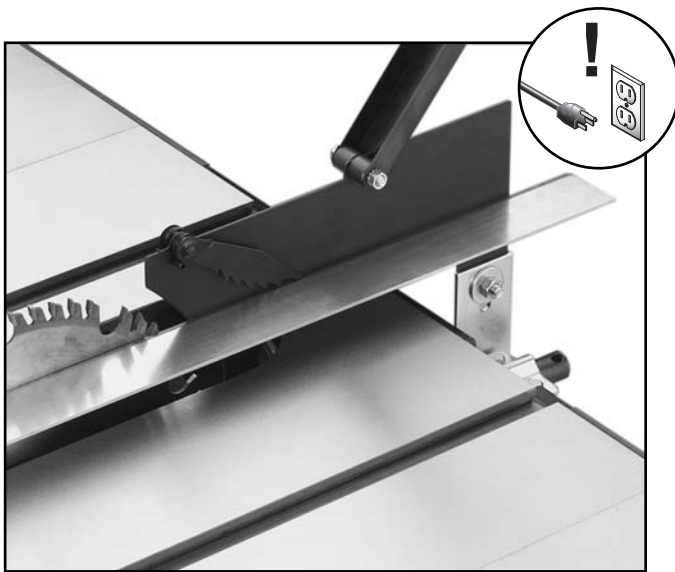

Figure 19. Guard in line with blade.
- Next, set a straightedge against the face of the saw blade and the blade splitter as shown in **Figure 19**. If the blade splitter is properly aligned, please skip ahead to **Page 26**; otherwise, continue with the next step.